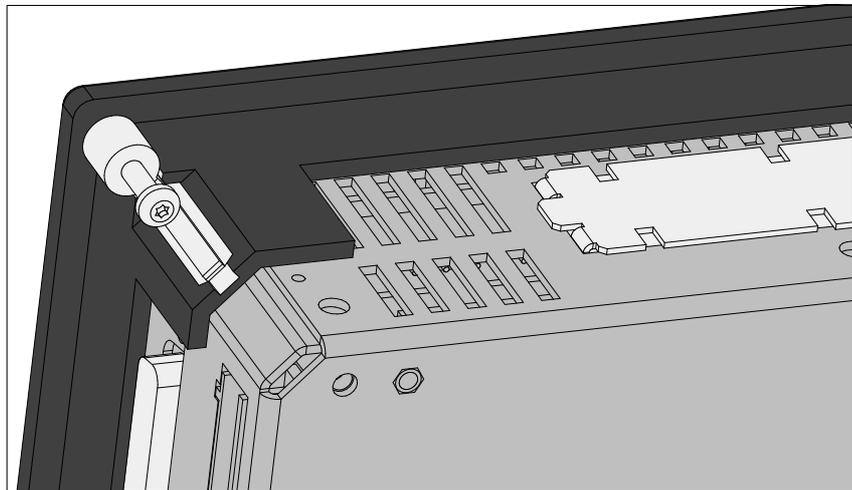

Figure 2-5 Fixing Bracket Engaged, with Screw
5.	Screw the four fixing screws enclosed with the C7 into the four fixing brackets enclosed (see Figure 2-5) (approximately two to three turns).